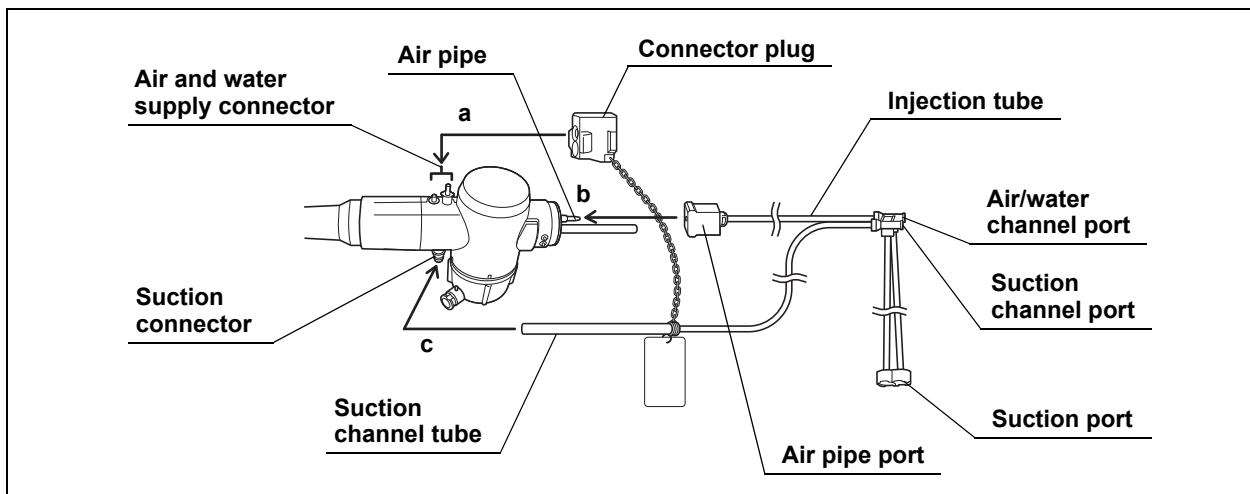

Figure 5.53
3. Immerse the suction port of the injection tube (MH-946) in the water (see Figure 5.53).